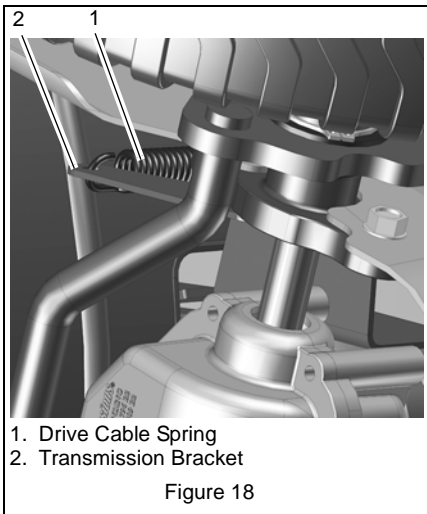

Figure 18
3. Disconnect the drive cable spring from the transmission bracket. See Figure 18.